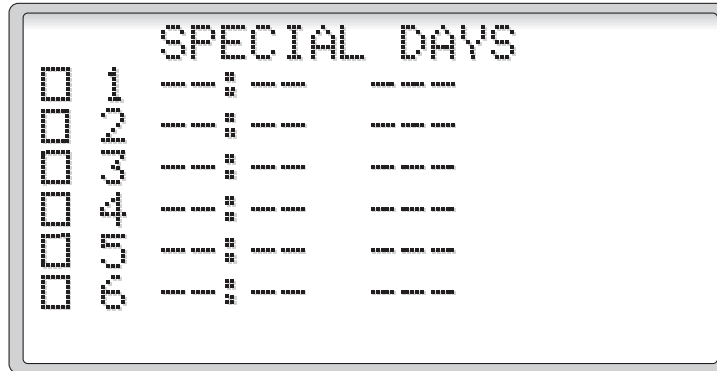

Figure 17
2.3.3.4 Special Days (Figure 17)